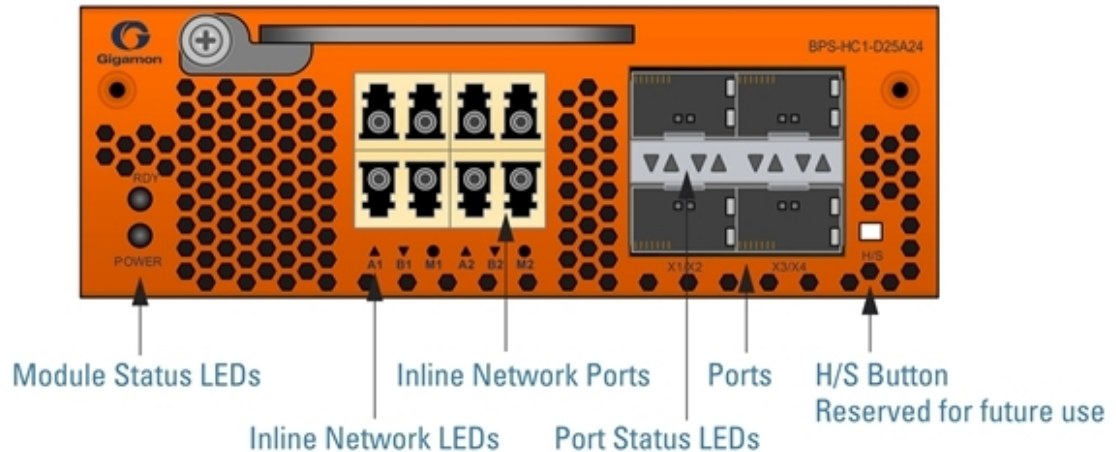

Figure 5 Bypass Combo Module BPS-HC1-D25A24
- Bypass Combo Module with two SX/SR (50/125µm multimode) inline network port pairs and four regular SFP+ port cages (BPS-HC1-D25A24) (Figure 5 Bypass Combo Module BPS-HC1-D25A24)